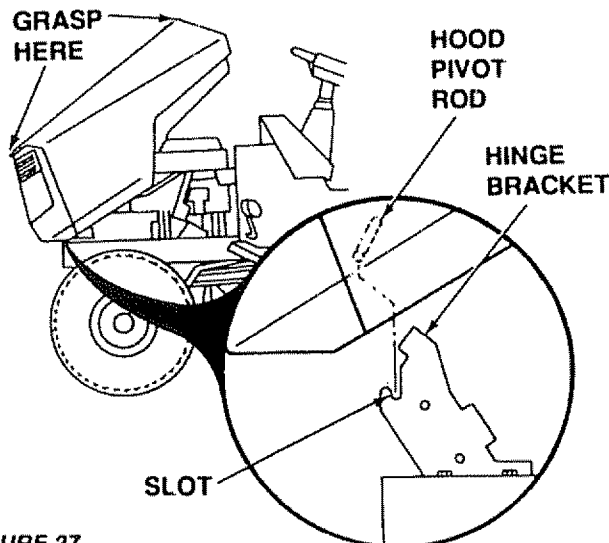

FIGURE 27
- Pick hood up at top of grill and upper hood edge (Fig. 27).
- Align hood pivot rod with hinge brackets. Rotate hood half way down, slide pivot rod in and down into hinge slots (Fig. 27).